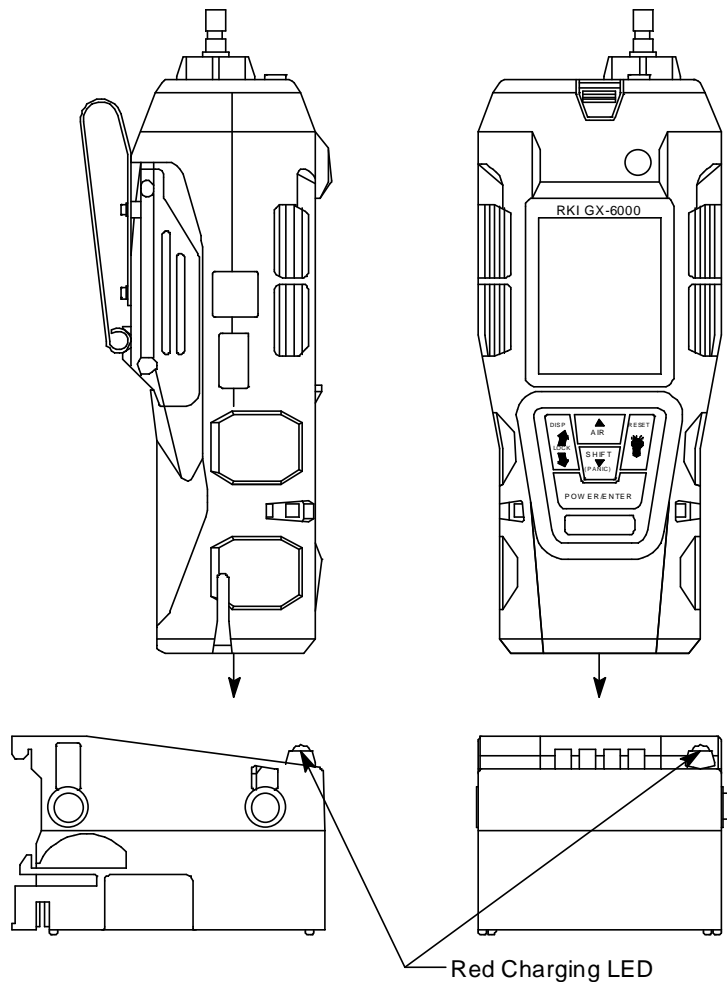

Figure 17: Putting the GX-6000 into the Charging Station
4. Place the GX-6000 into the battery charging station as shown in Figure 17 below so that the metal contacts on the back of the unit come into contact with the metal contacts on the back of the holder in the charging station. When proper contact has been made, the red LED on the charging station will turn on.